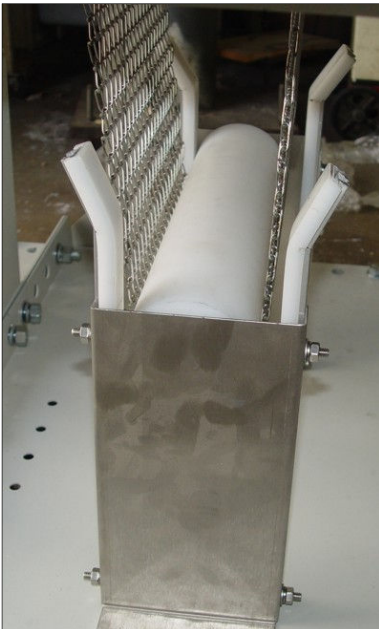

Figure 7-28 Belt Weight in Place
4. Reinsert belt weight as shown in Figure 7-28. If necessary, pull belt to the left or right to align Belt so that Belt Weight is allowed to move freely as shown in Figure 7-28.
Reinsert belt weight as shown in Figure 7-28. If necessary, pull belt to the left or right to align Belt so that Belt Weight is allowed to move freely as shown in Figure 7-28.